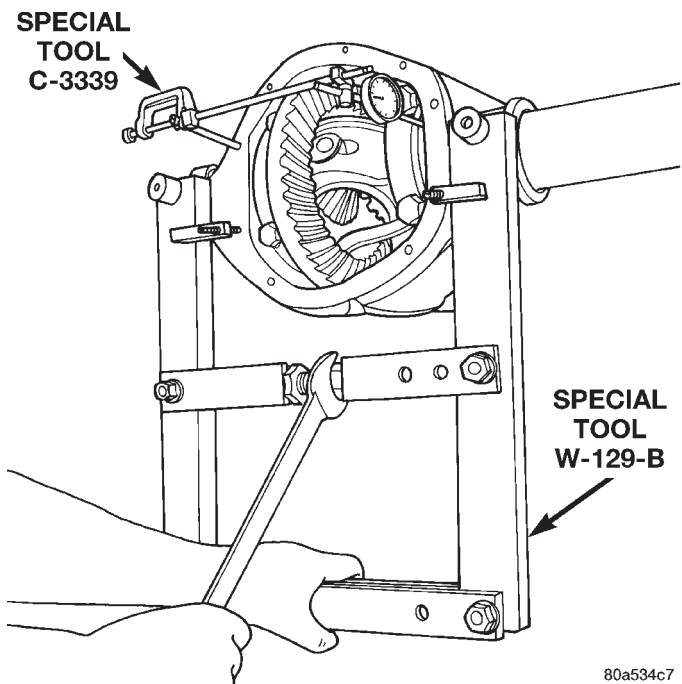

Fig. 34 Spread Axle Housing
(9) Spread the housing enough to remove the differential case from the housing. Measure the distance with the dial indicator (Fig. 34).
(3) Spread the housing enough to install the case in the housing. Measure the distance with the dial indicator (Fig. 34).
(4) Remove the dial indicator.